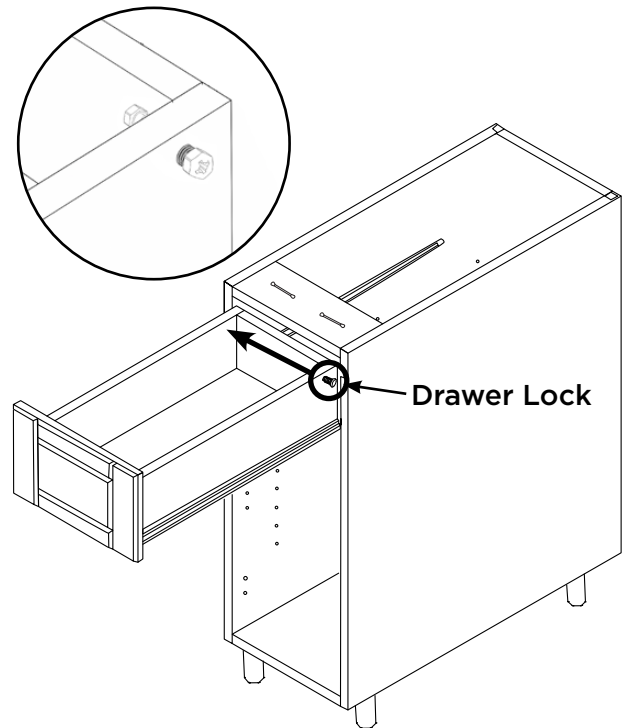

Figure 17
3. From inside the cabinet, pull the drawer lock located at the rear of the drawer (Figure 17).